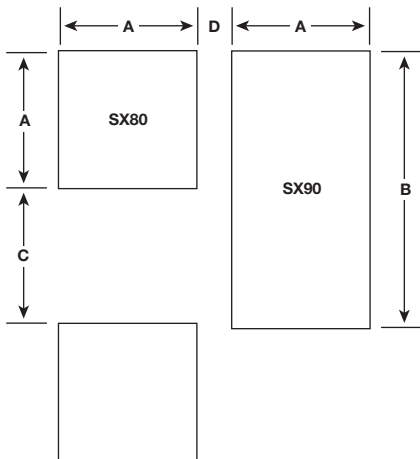

Fig. 6
- Cut the panel to the size shown (see Figure 6 on page 16).